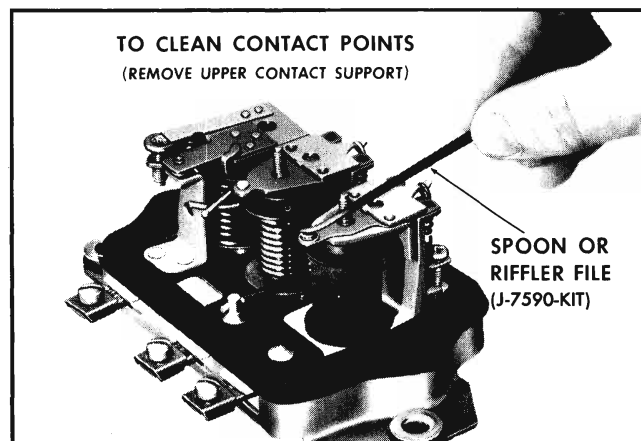

Fig. 11-45 Cleaning Regulator Contact Points
The large flat contact points located on the armature of the voltage regulator (Fig. 11-45), and on the upper contact support of the current regulator are hard and will usually require the most attention. Clean the contact points as follows:
2. Using spoon or riffler file (Fig. 11-45), remove all oxides from the flat contacts on the voltage regulator armature and current regulator upper contact support.